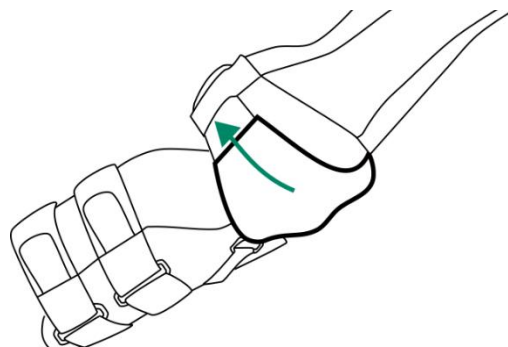

Figure 12
3. Close the Velcro and slide the triangular sections over the strap to cover the Velcro (Fig. 12).